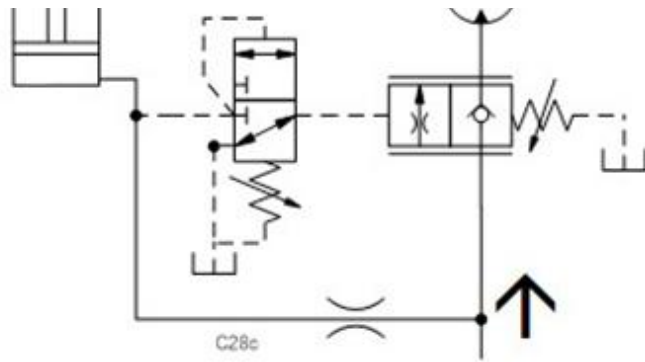

Fig.3
- **Fig. 3** shows a vented load control valve instead of the logic valve in circuit 2. It incorporates a reverse free-flow check. The 2/3-way DRBC unloads the pilot port of the MW*M to tank until P3 exceeds the setting of the DRBC.